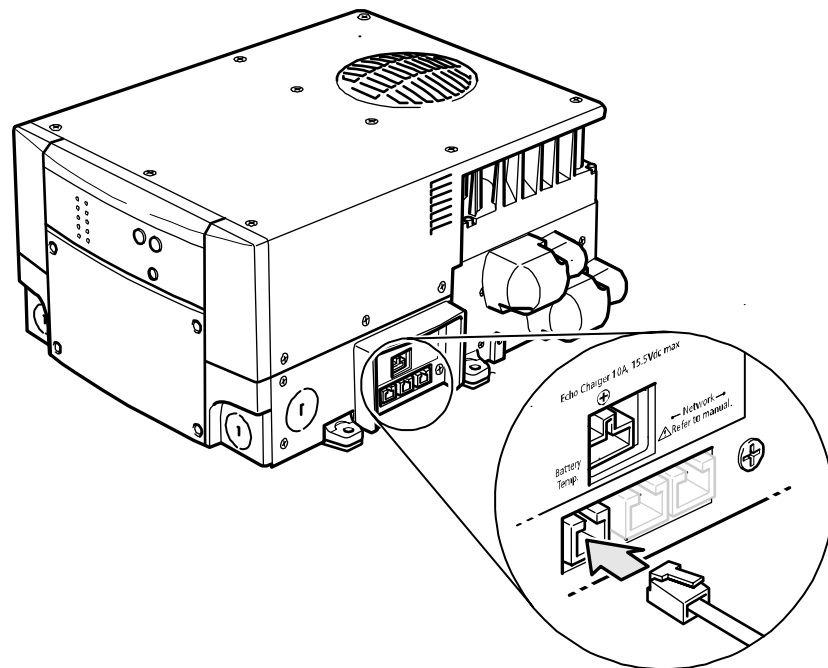

Figure 15 Connecting the BTS Cable to Battery Temp. jack
9. Route the sensor cable to the inverter/charger and plug it into the Battery Temp jack, as shown in Figure 15. Secure the cable along its length.
6. Route the sensor cable to the inverter/charger and plug it into the Battery Temp. jack, as shown in Figure 15. Secure the cable along its length.